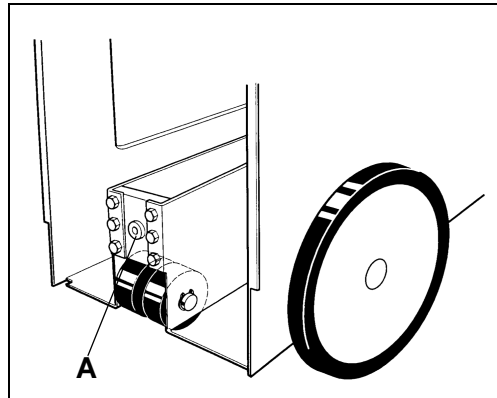

Fig. 19 Adjustment screw
26. Loosen adjustment screw **A** (Fig. 19) until it is free but **do not remove it**. This may require several revolutions of the bolt and a considerable torque. On some point, the torque needed will decrease suddenly and sharply. The arm is no longer balanced now.
30. If needed, loosen the adjustment screw **A** a little more (Fig. 19).